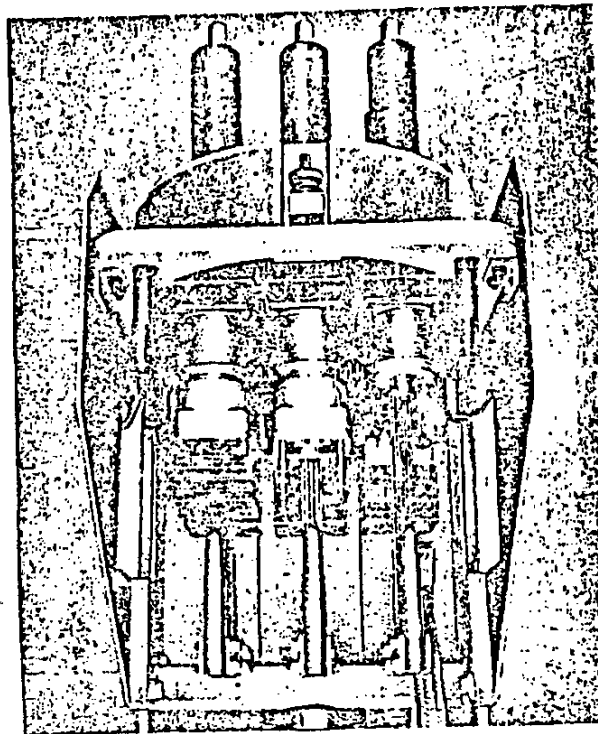

Fig. 1 The internal mechanism of the circuit-breaker top-plate
- Fig. 1 The internal mechanism of the circuit-breaker top-plate